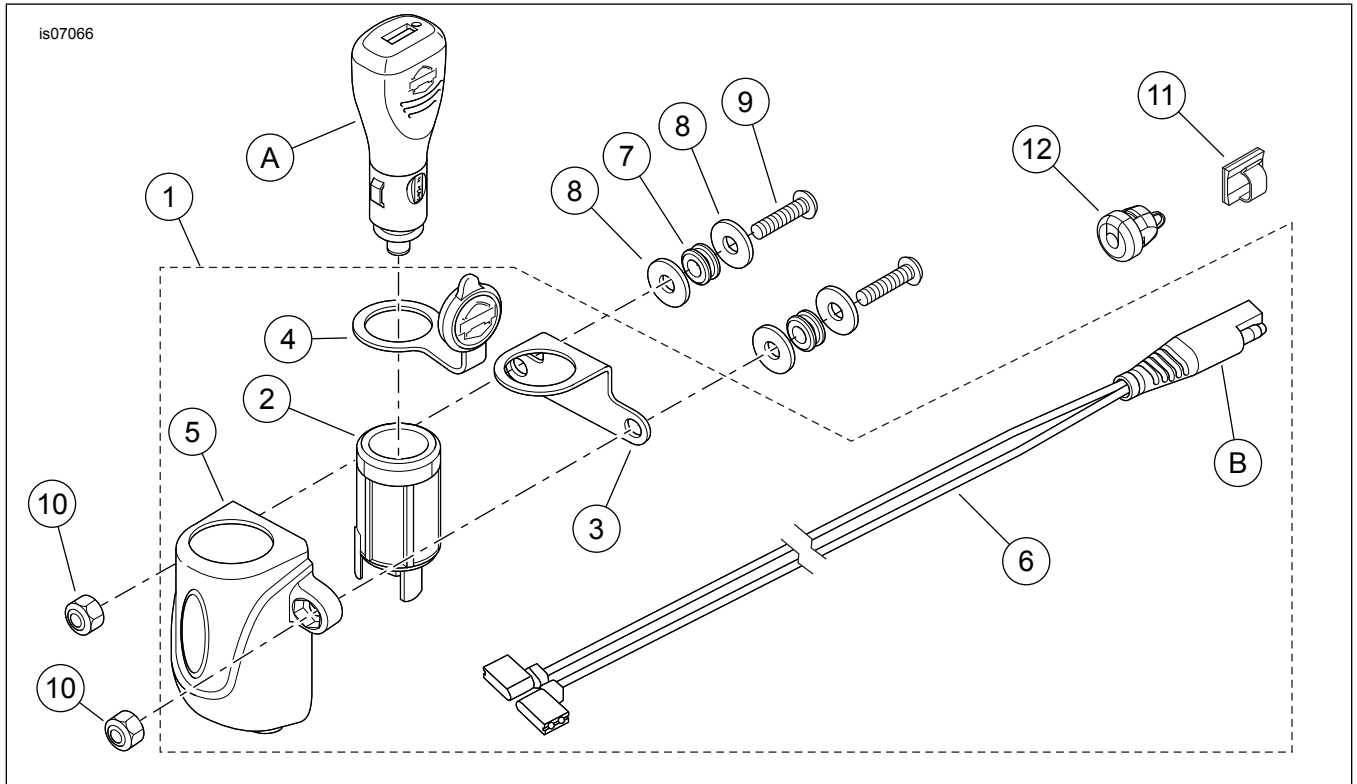

Figure 1. Service Parts, Saddlebag 12 Volt Power Outlet Kit
See Figure 1 and Table 1.
3. Select a flat surface inside the saddlebag, on the inboard wall. See Figure 1. Using the outlet housing (5) as a template, mark the locations for the two mounting holes and the power outlet harness pass-through opening with a center punch. Note that the power outlet housing mounting holes are 50.8 mm (2 in) apart.
5. Install a rubber grommet (7) into each of the 9.5 mm (0.38 in) power outlet mounting holes drilled in Step 4.
6. Place a washer (8) onto the threads of each hex socket screw (9). Insert the screws through the grommets, and place a second washer onto the screw threads.
7. Install the power outlet assembly (1) to the saddlebag side wall with the lock nuts (10). Tighten to 2.8–4 N·m (25–35 in-lbs).
8. Feed the two-way power outlet connector (B) and harness out through the 16 mm (0.62 in) hole in the saddlebag side wall, and route to the charger harness connector.
9. Use an adhesive-backed clip (11) to secure the power outlet harness to the inside of the saddlebag if needed. Use at least one adhesive-backed clip to secure the power outlet harness to the outside of the bag or the vehicle frame near the charger harness connector.